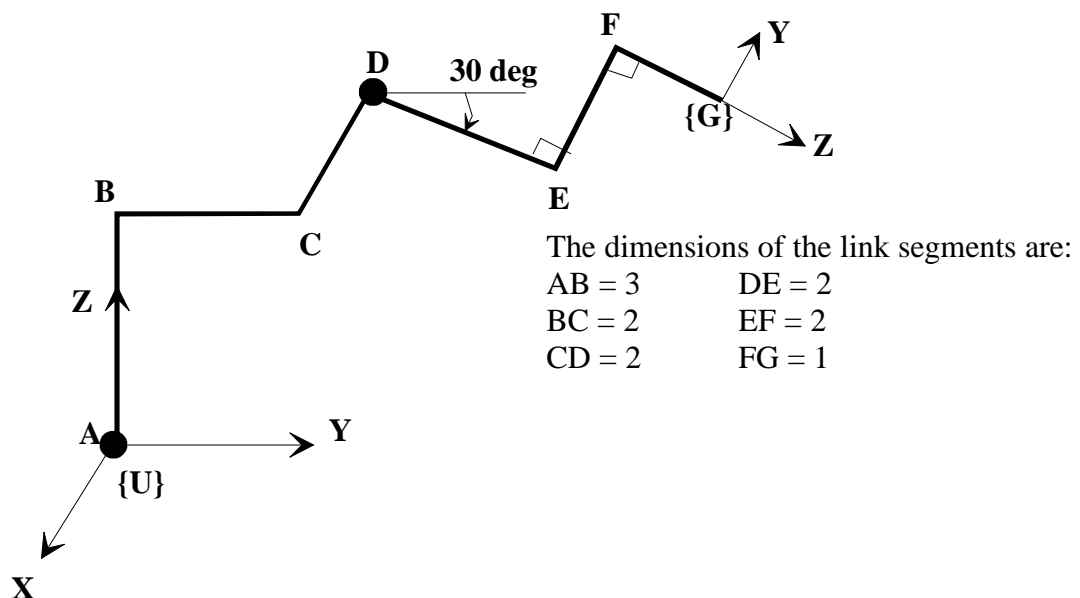

Figure 2
Q.2. (a) Figure 2 shows a manipulator with two rotational joints at locations A and D. The first moving link is link ABCD. ABC is on a plane and CD is normal to this plane. The first joint axis is along the z axis of Frame U. The second moving link is link DEFG (DEFG is on the same plane). The second joint axis is along link segment CD. When the two joints are moving, CD is always parallel to the xy plane of Frame U (horizontal plane) while planes ABC and DEF are always in a plane parallel to the z axis of Frame U (vertical plane). Frame G is attached to the second link as shown in Figure 2, with its yz plane always aligned to the plane defined by DEFG.
- (i) Assign coordinate frames to each link according to the Denavit-Hartenberg (DH) convention.